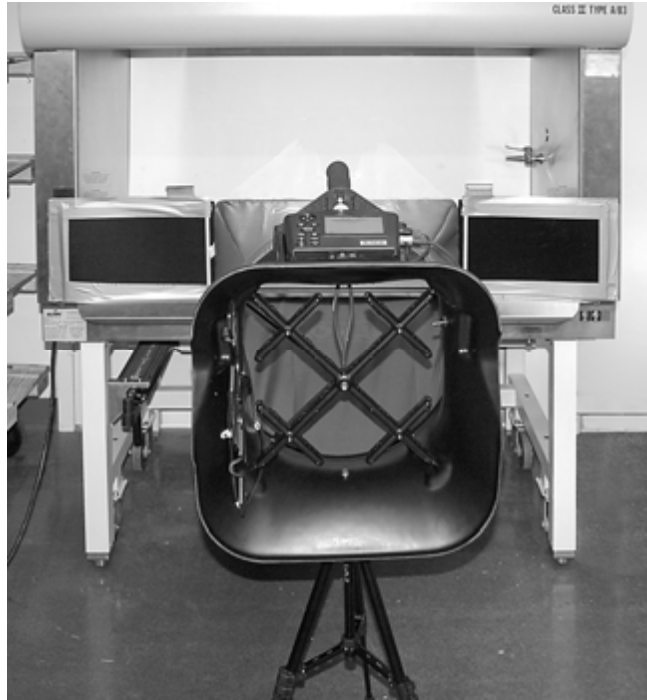

Figure 28: Unit Ready to Make Measurements
7. Adjust the flaps to cover the opening of the cabinet. Tape the edges of the flaps to the sash and frame of the cabinet to create a tight fit. The unit is now ready to make measurements (see Figure 28).